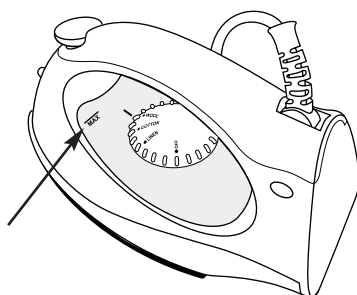

FIGURE 3
5. Check see-through Water Tank to see if iron is filled to maximum fill line (see FIGURE 3).